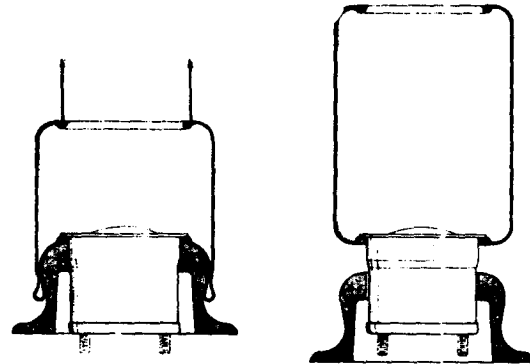

Fig. 13: Removing Good Air Bag
2. Pull the air bag up and away from the aluminum pedestal (Fig.13).